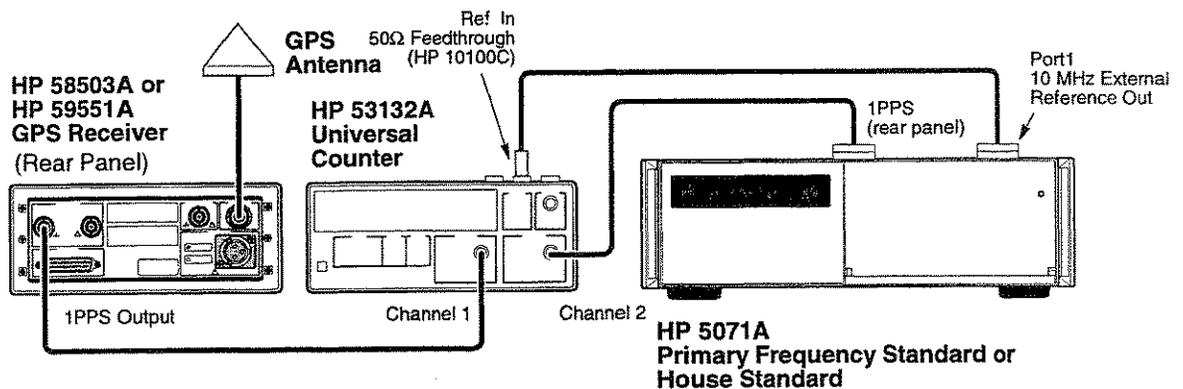

Figure 6. 10 MHz Frequency Accuracy and 1 PPS Jitter Test Setup (HP 58503A GPS Receiver shown)
- 3** Connect the 10 MHz reference output from the reference 1 PPS source (HP 5071A or another stable, traceable house standard) to the rear-panel **Ref In** of the Universal Counter, as shown in Figure 6, to provide an external timebase for the Counter.
- 3 Connect the 10 MHz reference output from the reference 1 PPS source (HP 5071A or another stable, traceable house standard) to the rear-panel **Ref In** of the Universal Counter, as shown in Figure 6, to provide an external timebase for the Counter.